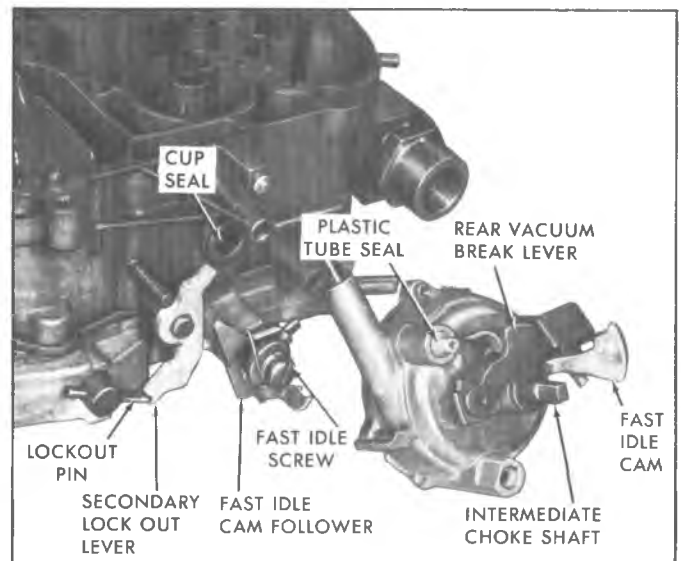

Fig. 16MQ—Choke Housing Assembly
- Remove secondary throttle valve lock-out lever from float bowl. (Fig. 16MQ).
- Remove plastic tube seal from choke housing (Fig. 16MQ).
outward. The fast idle cam can now be removed from the intermediate choke shaft (Fig. 16MQ).
4. Install fast idle cam onto the intermediate choke shaft (steps on fast idle cam face downward) (Fig. 16MQ).